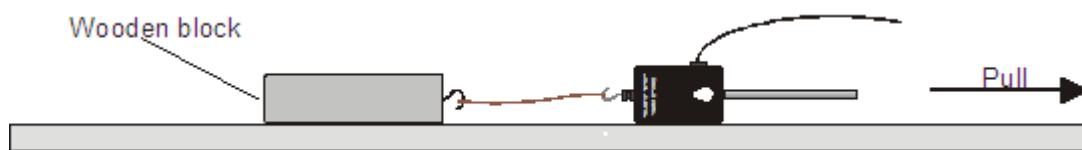

Figure 2. A schematic of the experiment
6. Lay the block on the table and connect the force detector to it as shown below in Figure 2 [3].